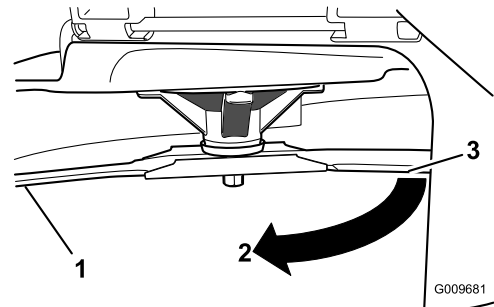

Figure 44
3. Measured distance between blade and the surface (A)
4. Rotate the same blade 180 degrees, so that the opposing cutting edge is now in the same position (Figure 44).